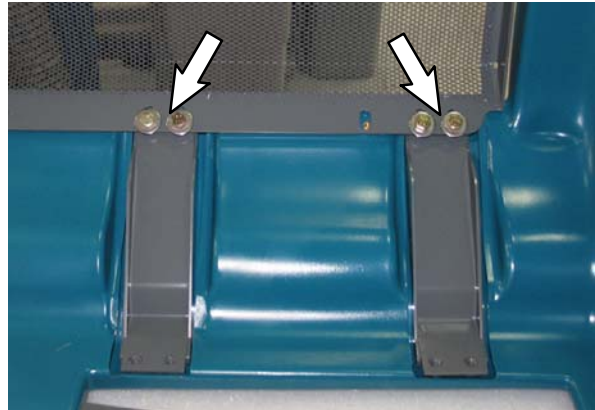

FIG. 83
104. Use four hex screws (51) and four flat washers (19) to install the right rear cover support brackets (49) into the right rear cover (78). (Fig. 83)